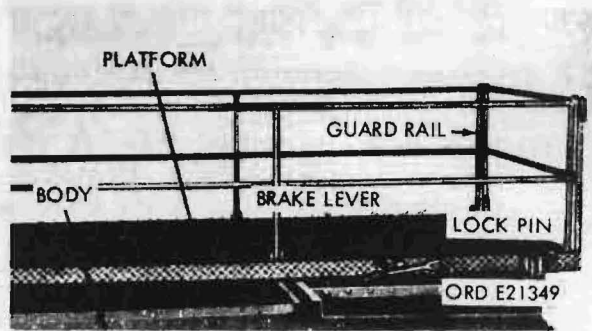

Figure 95. Revolving platform
- (2) Revolving platform controls (fig. 95). The revolving platform, located on the vehicle roof, has a lockpin to hold the